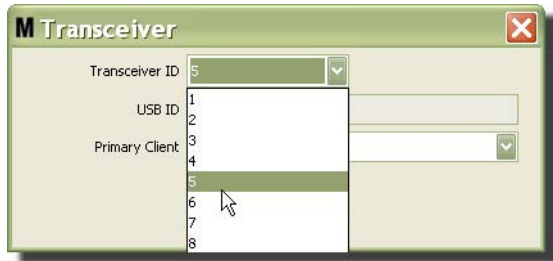

FIG. 102
4. To modify the Transceiver ID, click the arrow to display the drop-down menu. From the drop-down menu select a Transceiver ID number that is not already being used by a Transceiver in the system (FIG. 102). Click OK to close the screen and save the changes.